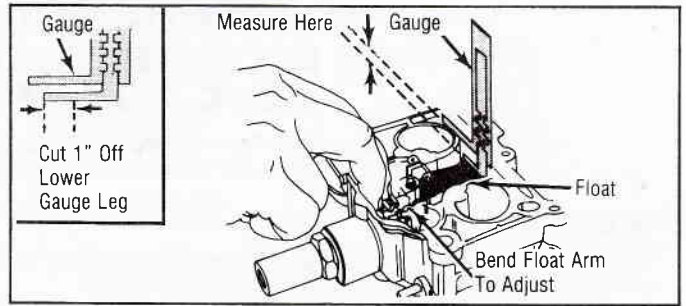

Fig. 2 Float Level Adjustment
2. Hold float retainer pin in place. Press down lightly against needle valve. See Fig. 2.